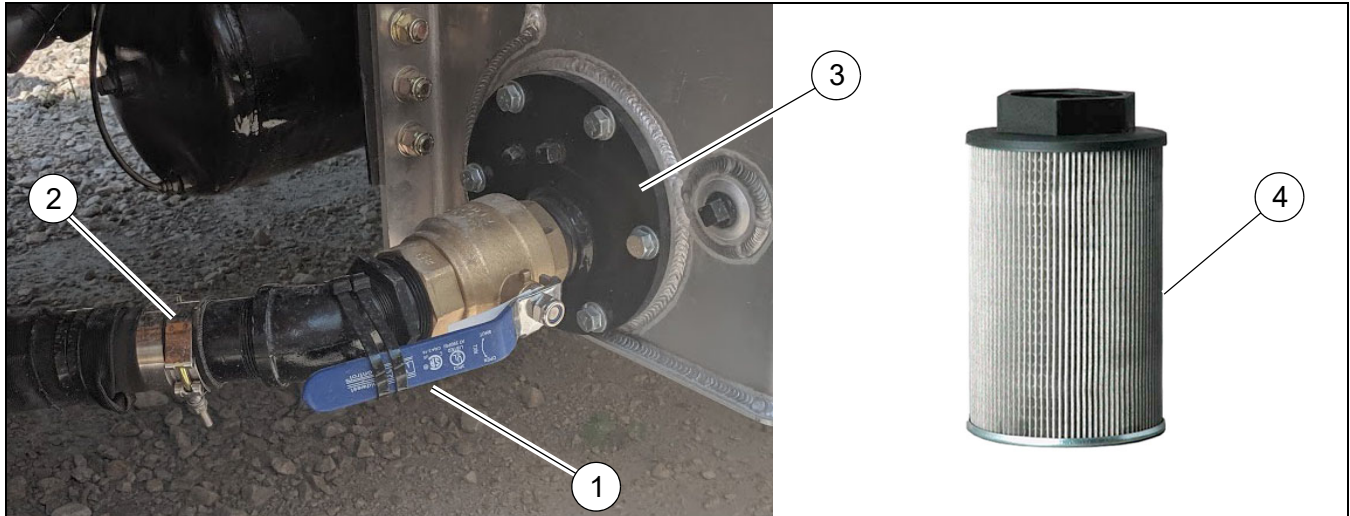

Figure 3
- Cut wire ties and move lever (**Figure 3, 1**) down to close off valve.
- Loosen clamp (**Figure 3, 2**) and remove suction hose.
- Remove cap screws and pull to remove cover (**Figure 3, 3**) and access suction strainer.
- Replace suction strainer (**Figure 3, 4**), part no. 119237, on cover.